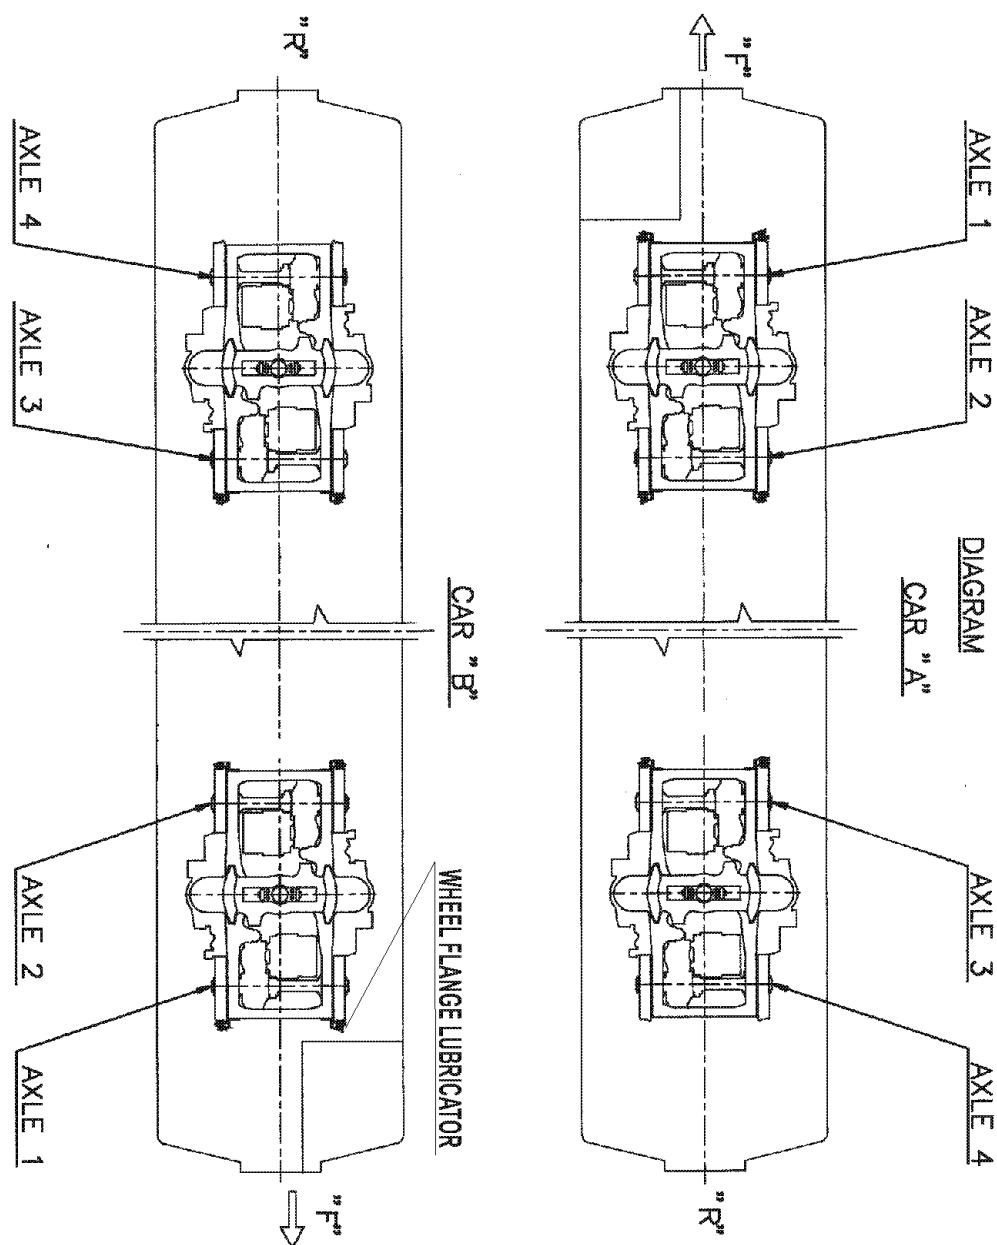

Figure 4-14. Flange Lubricators Location
Wheel flange lubricators (26) are located on the trucks i.e. (see Fig. 4-14):